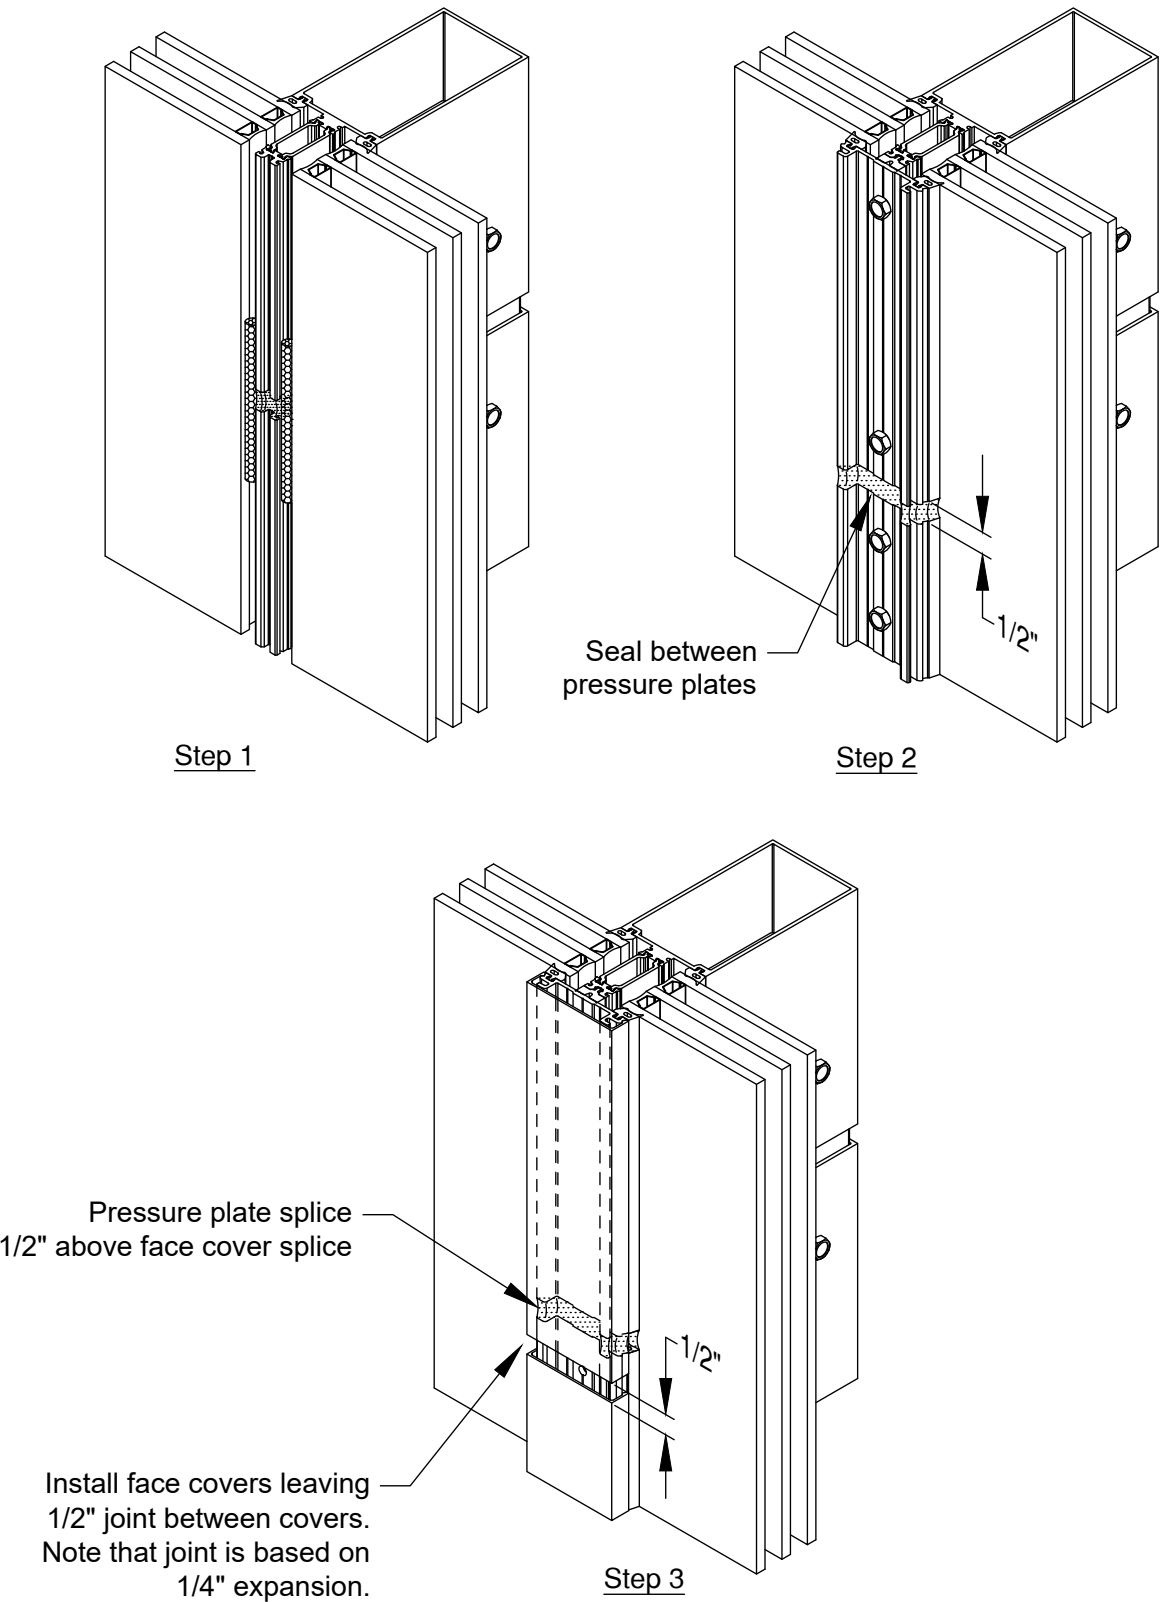

FIGURE 23
- B.3 Offset pressure plates and face covers per **FIGURE 22**, sealing pressure plate and face cover joints as shown in **FIGURE 23.**